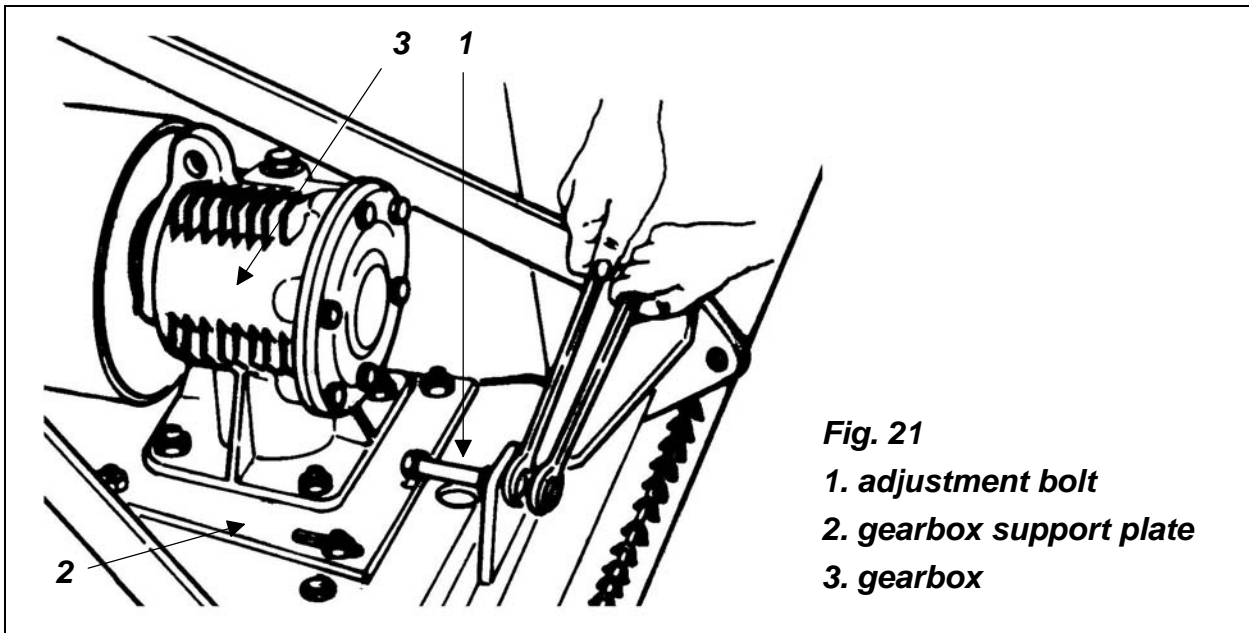

Fig. 21
To adjust the tension do the following (**see fig. 21**):
4. Turn the adjustment bolt counter clockwise, pushing the gearbox support plate forward until all tension is released (**see fig. 21**).